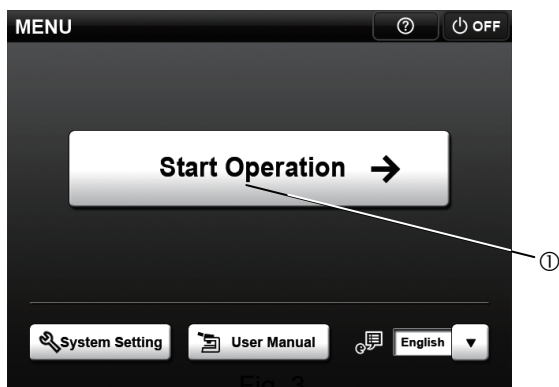
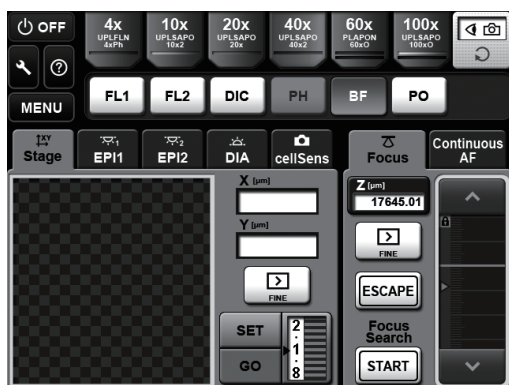

Fig. 3
Fig. 4
- 3) If you are using the scanning stage with ultrasonic, set the main switch of its control box for scanning stage with ultrasonic to “ I ” (ON).
- 4) If you are using the control box for fast filter wheel and shutter, set the main switch of its control box for fast filter wheel and shutter to “ I ” (ON).
- 5) Set the main switch of the IX3-CBH control box to “ I ” (ON).
* Be sure to start cellSens while the menu window (Fig.3) is displayed on Touch Panel Controller or while the operation window (Fig.4) is displayed by tapping the [Start Operation] button② on the menu window.